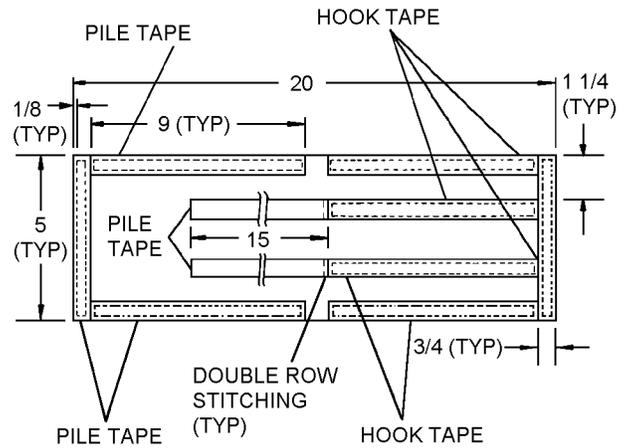

Figure 9-12. Painter Line Pouch
1. Cut and stitch hook and pile tape along edge of material. See figure 9-12.
2. Stitch two 9-inch lengths of hook tape 1 1/4 inch from sides. See figure 9-12.
3. Position face up a 15-inch length of pile tape at inner end of each inside strip of hook tape. Secure inner end of each pile tape to material with double row of stitching. See figure 9-12.